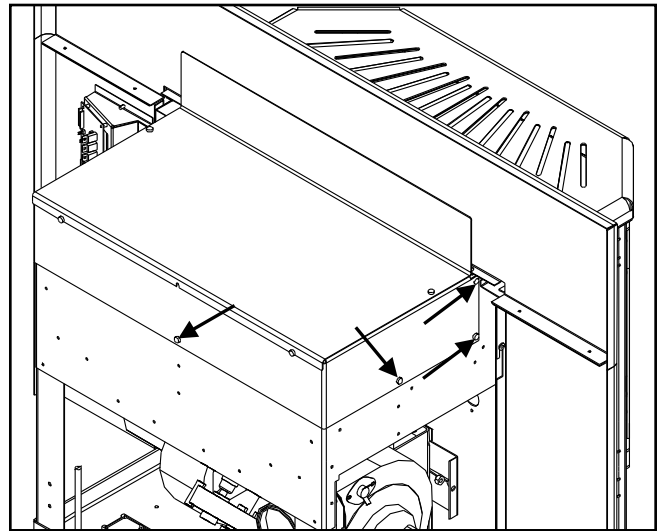

Figure 16: Hopper Extension Screw Placement.
To change the height of the hopper back up or down, remove the seven (7) T-20 screws, three (3) on each side and one (1) on the back. The screw placement is shown Figure 16. Move the hopper assembly to the required setting and replace the screws. When the hopper back is in place it is recommended that silicone is used to seal the bottom lip of the hopper back and sides